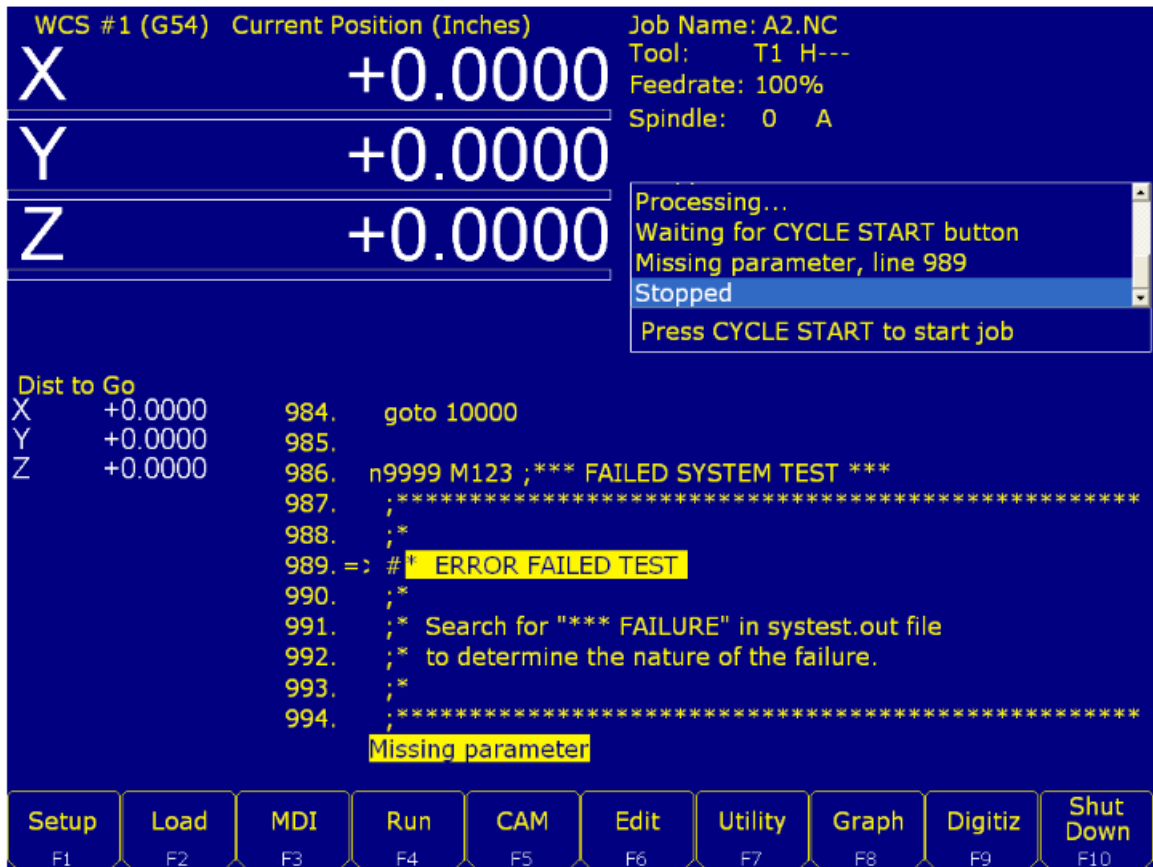

Figure 11.4
4. If the System Test fails at any time while testing, you will see “Missing parameter, line 989” on the Config Screen. To fix this, go back to the main screen, where you will see the following screen (see Figure 11.4). Load the `systest.out` file located in the CNC software directory and press **F6 – Edit** to see exactly what failed (see Figure 11.5).